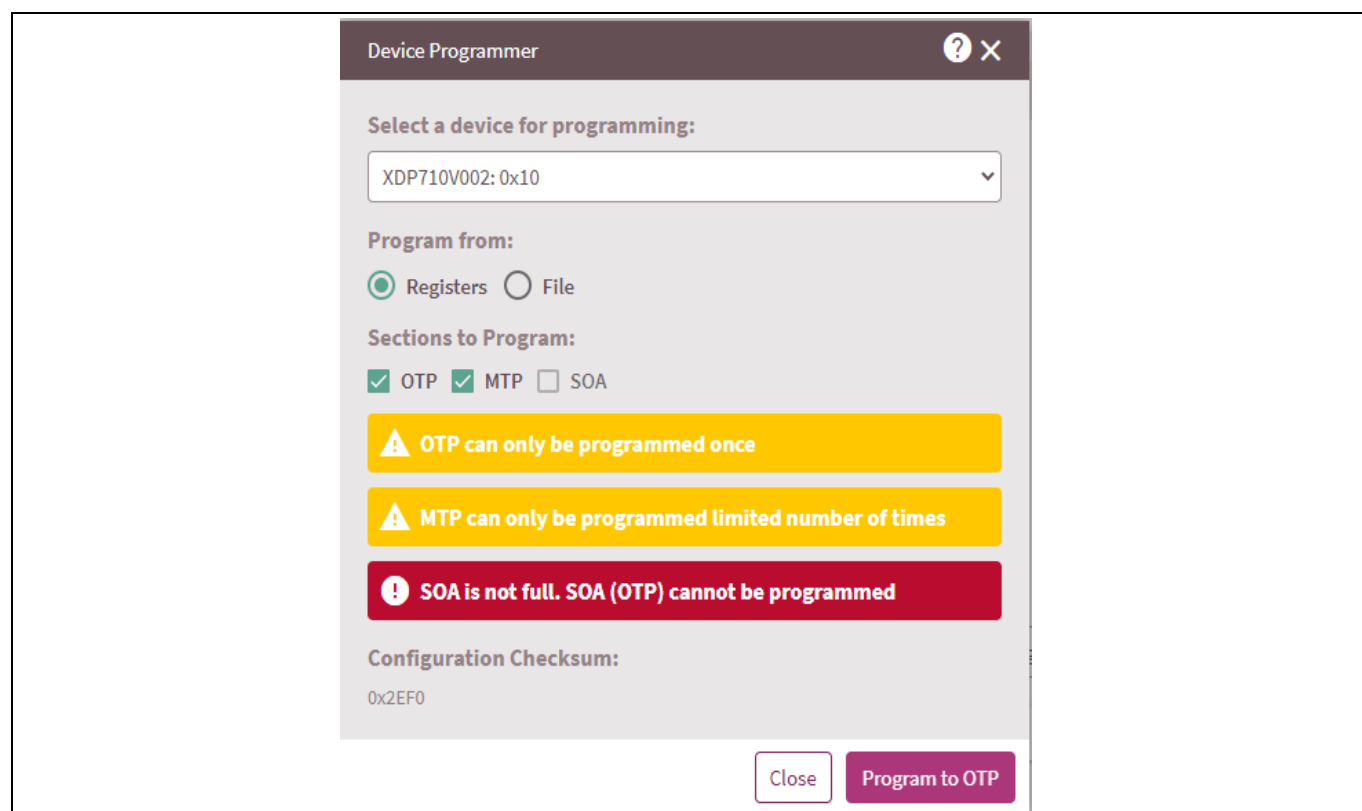

Figure 40 OTP and MTP programming
- Set the program from “Registers”, select the memory section that needs to be programmed and then click on “Program to OTP”, as shown in Figure 40.